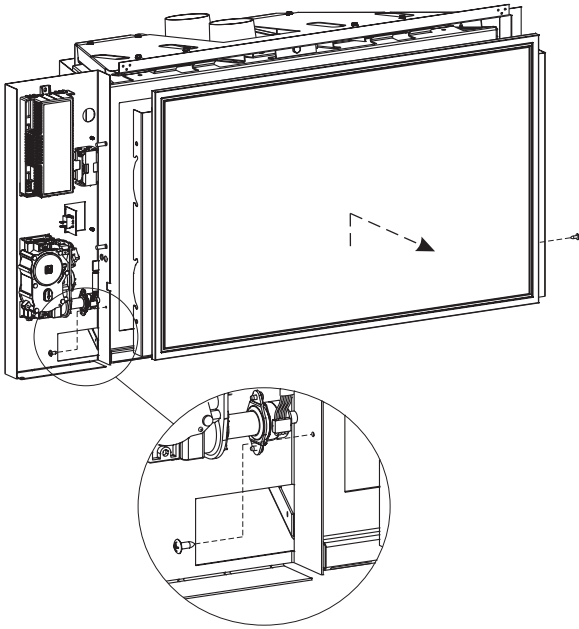

Figure 12
1. Remove the two screws securing the screen assembly to the firebox. Lift the assembly up and pull out to remove it from the firebox. See Figure 12.